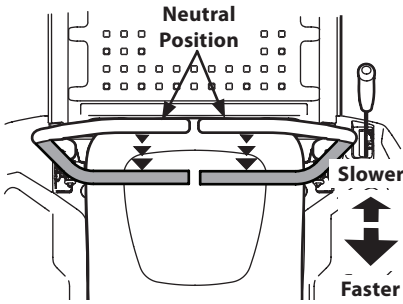

Figure 25
1. Slowly and evenly move both lapbar drive control levers rearward. The tractor will start to move in the reverse direction. See Figure 25.